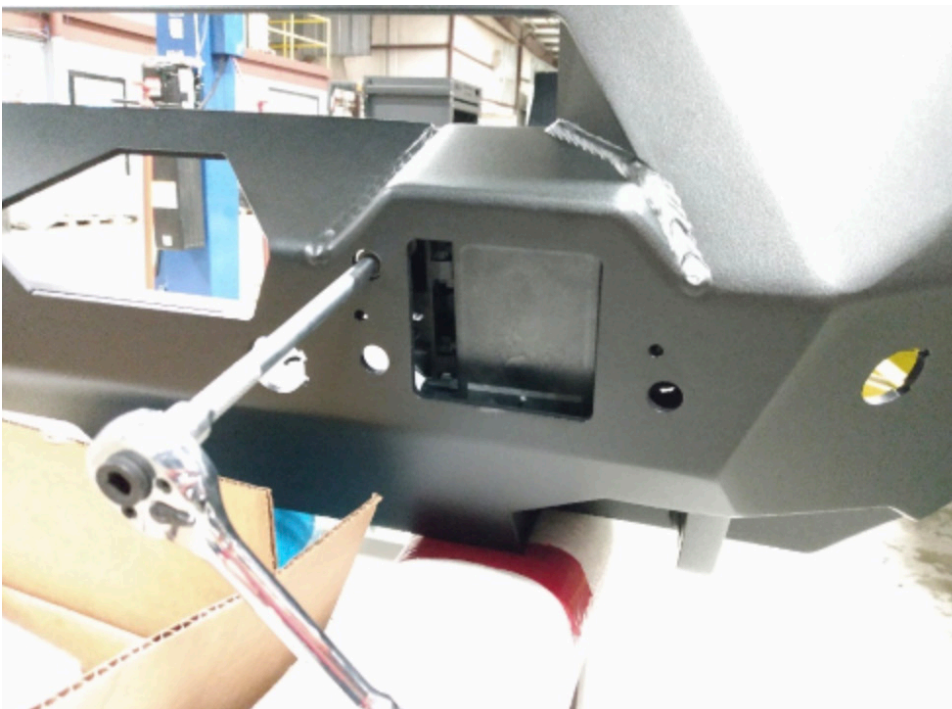

Figure 23A
20. Thread the ACC bracket mounting studs into the mounting bracket in the bumper using an E6 torx socket wrench. Tighten the top stud until the sensor face is parallel to the bumper face. Figure 23A